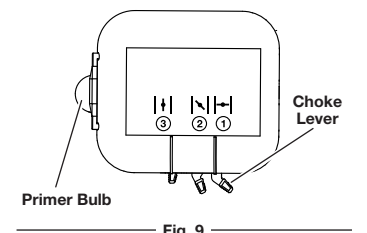
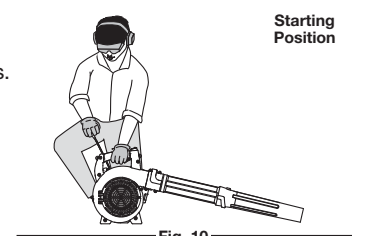

Fig. 9
Fig. 10
WARNING: Avoid accidental starting. Make sure to be in the starting position when pulling the starter rope (Fig. 10). To avoid serious injury, the operator and unit must be in a stable position while starting.
3. Fully press and release the primer bulb 10 times, slowly. Some amount of fuel should be visible in the primer bulb (Fig. 9). If fuel cannot be seen in the bulb, press and release the bulb until fuel is visible.
4. Move the choke lever to **Position 1** (Fig. 9).
5. **Do not squeeze the trigger.** Crouch in the starting position (Fig. 10). Pull the starter rope 5 times in a controlled motion.
6. Move the choke lever to **Position 2** (Fig. 9).
9. Continue to squeeze the trigger. Move the choke lever to **Position 3** (Fig. 9) and continue warming the engine for an additional 60 seconds. The unit may be used during this time.
5. Crouch in the starting position (Fig. 10). Place the electric starter or Power Start Bit™ into the side of the unit. Refer to the Operation section of the electric starter or Power Start Bit™ operator's manual.
6. **Do not squeeze the trigger.** Press and hold the electric starter or drill's ON (I) button for 2 seconds.
7. Move the choke lever to **Position 2** (Fig. 9).
8. **Do not squeeze the trigger.** Press and hold the electric starter or drill's ON (I) button for 2-second intervals until the unit starts.
11. Continue to squeeze the trigger. Move the choke lever to **Position 3** (Fig. 9) and continue warming the engine for an additional 60 seconds. The unit may be used during this time.